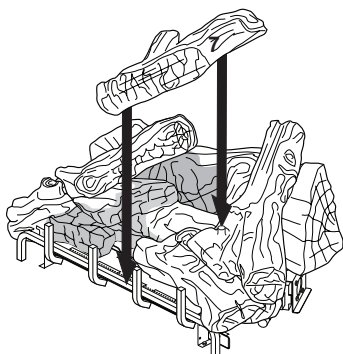

Figure 30 - Installing Log #7
- Match round hole on bottom of center crossover log (#7) with round peg on right crossover log (#5). Rest front of log #7 on grate as shown in Figure 30. Center crossover log (#7) must overlap grate and rest against grate finger. Log must NOT rest on burner.